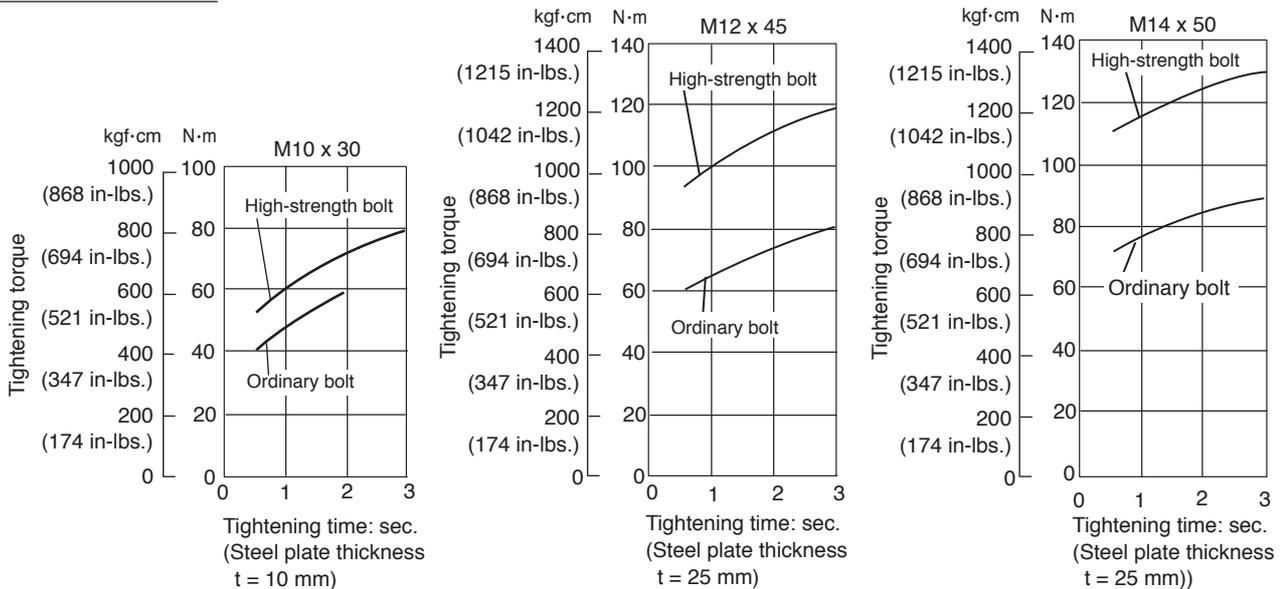

Fig. 6-1
Figures 6-1 and 6-2 show relationships between time and tightening torque for individual bolt types and sizes. While the data are useful for handy reference, actual tightening torque will vary depending on tightening conditions and other variables. For details, please refer to Para. 8-3, "Tightening Torque Variation".
- In the tightening conditions shown in Figs. 6-1 and 6-2, the screws are being tightened directly into a steel plate; accordingly, the torque goes up very abruptly in comparison with ordinary bolt tightening conditions.